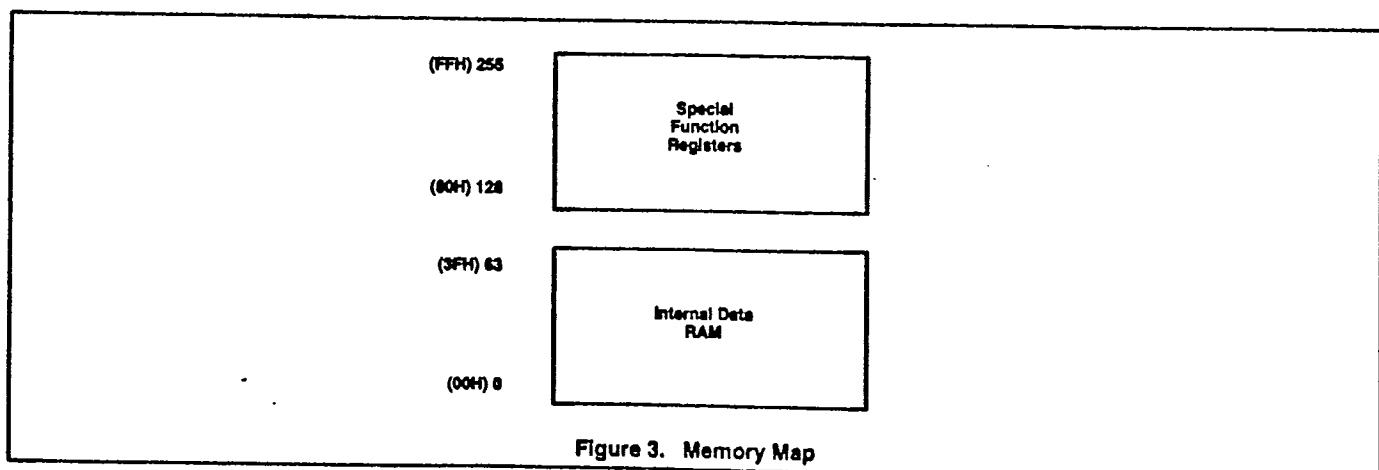

Figure 3. Memory Map
The central processing unit (CPU) manipulates operands in two address spaces as shown in Figure 3. The part's internal memory space consists of 2k bytes of program memory, and 64 bytes of data RAM overlapped with the 128-byte special function register area. The differences from the 80C51 are in RAM size (64 bytes vs. 128 bytes), in external RAM access (not available on the 83C751), in internal ROM size (2k bytes vs. 4k bytes), and in external program memory expansion (not available on the 83C751). The 128-byte special function register (SFR) space is accessed as on the 80C51 with some of the registers having been changed to reflect changes in the 83C751 peripheral functions. The stack may be located anywhere in internal RAM by loading the 8-bit stack pointer (SP). It should be noted that stack depth is limited to 64 bytes, the amount of available RAM. A reset loads the stack